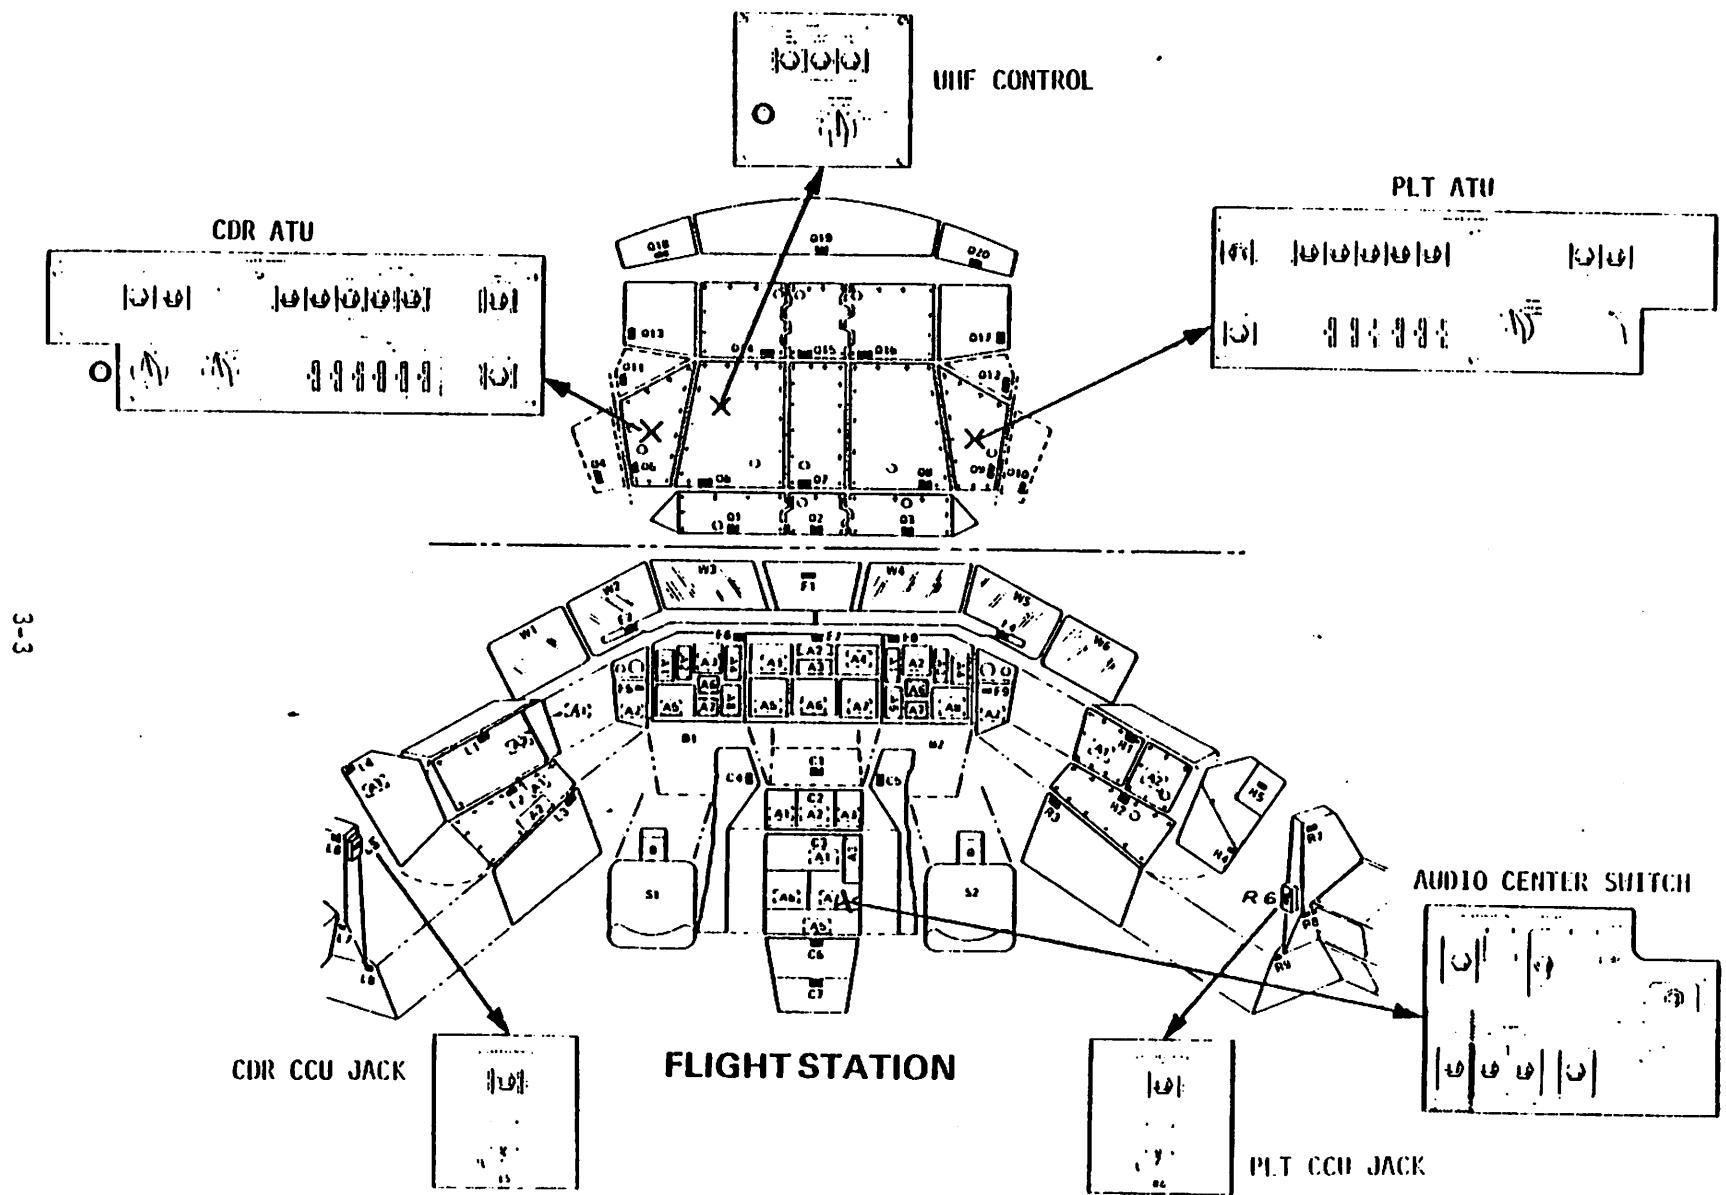

Figure 3-1.- Flight station audio panels.
Equipment location at the three crew stations is shown in Figures 3-1, 3-2, and 3-3.
3.1.2 Audio Center Switch. - Power to the ACCU is controlled by a three-position toggle switch on the center console (Figures 3-1 and 3-4). The switch is labeled 1, 2, and OFF. Position 1 selects ESS 2 CA Bus power for primary control of the ADS through the ACCU. Position 2 selects MN C Bus power for secondary control of the ADS. The OFF position blocks power from the ACCU.
3.1.6 CCU/EMU Outlets and Power Switches.- The outlets provide electrical connection to headset/helmet cables, and have an ON-OFF toggle switch at each outlet to control electrical power to the respective cables (See Figures 3-1, 3-2, 3-3, 3-10A, 3-10B, 3-11).